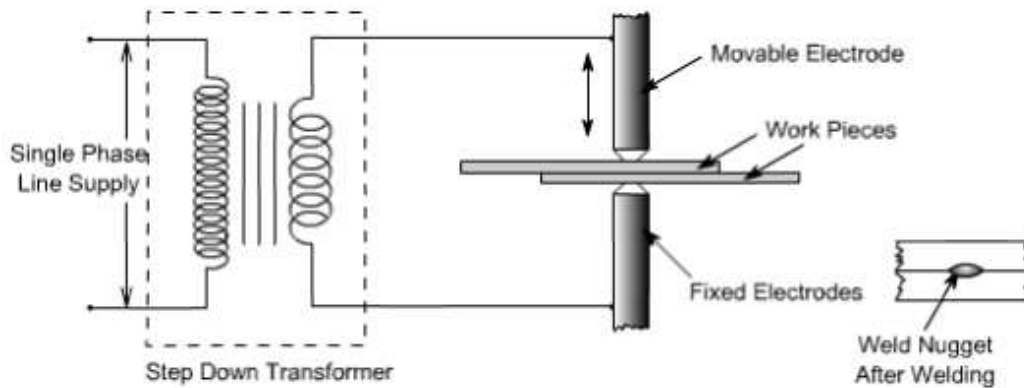

Fig 1. working principle of resistance spot welding
8. Fig.1 : Principle of Spot Welding Machine, NPTEL Lecture 11 & 12, Manufacturing Processes-I, Prof. S.R. Gupta.